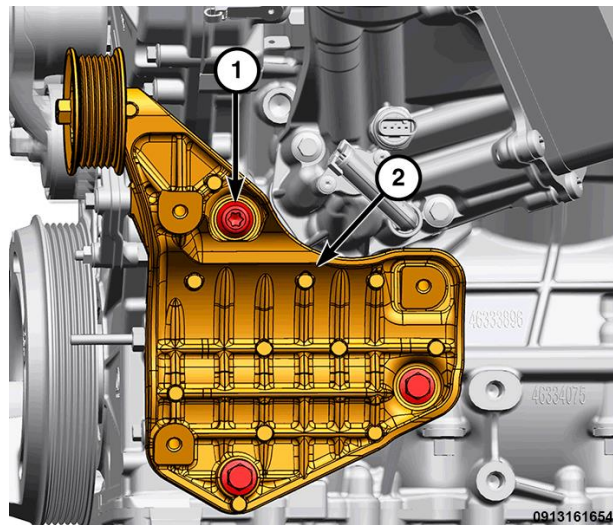

Figure 17 – A/C Compressor Bracket
24. Remove the bolts (1), and the A/C compressor bracket (2) (Figure 17).
35. Install the A/C compressor bracket (2) and the bolts (1) (Figure 17). Tighten to 45 N·m (33 ft. lbs.).